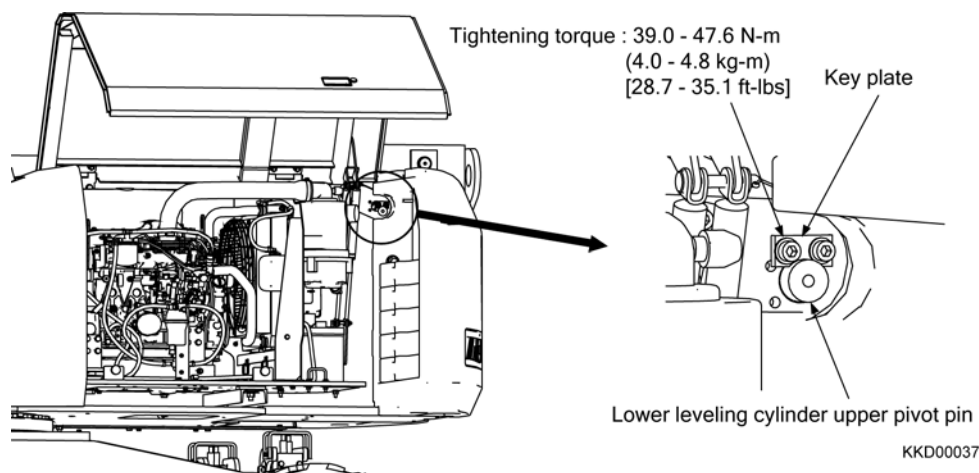

Fig. 2-70
17) Fix the lower leveling cylinder to the boom. (Fig. 2-70)